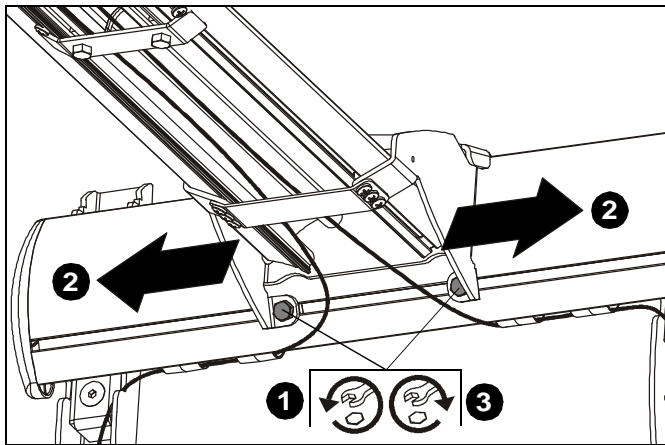

Figure 68
1. Loosen two 1/4-20 x 5/8" hex head cap screws (E) on underside of mounting bracket. (See Figure 68)
2. Adjust projector arm laterally to desired position. (See Figure 68)
3. Tighten two 1/4-20 x 5/8" hex head cap screws loosened in Step 3. (See Figure 68)